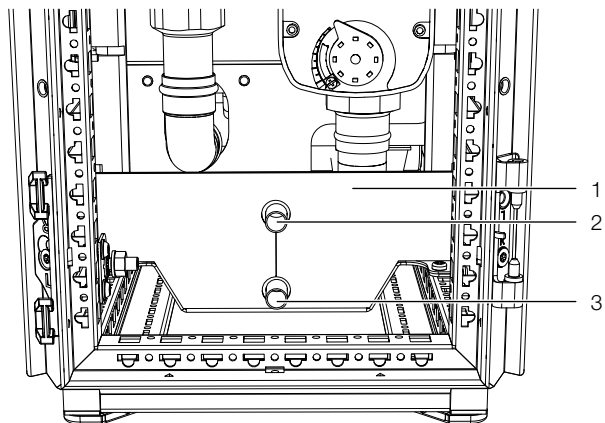

Fig. 64: Condensate discharge
- Insert the adaptor from the scope of supply onto the lower condensate drain (fig. 64).